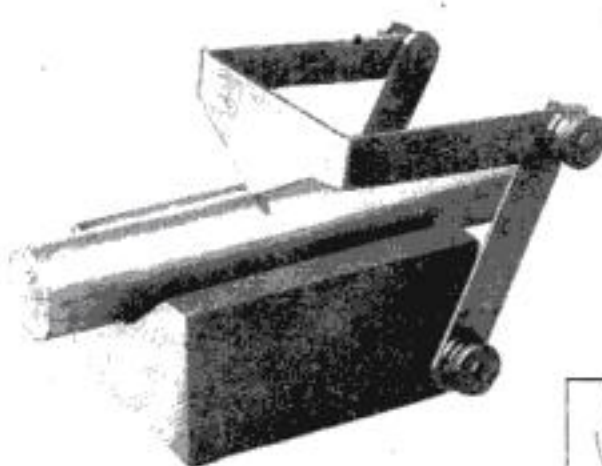

Fig. 2. V-block with centering attachment for setting work to be drilled.
Where only a few pieces are needed, a die like that at *B* in Fig. 1 may be placed on the material by hand and used in a vise as at *A* in Fig. 2, or under a screw press as at *B*. For cutting very soft metals, the die may be left soft, but for anything harder than copper, it should be hardened and tempered to about a straw color. The pad under the material may be end-grain hardwood or thick, hard fiber for any material softer than copper, and cold rolled brass or steel for harder materials requiring a hardened die.
**W**HEN drilling or redrilling holes in round stock, the work can be greatly simplified if an ordinary V-block is equipped with the centering attachment as illustrated in Fig. 2. With this arrangement it is possible to set punch marks or drilled holes exactly in line with the vertical axis of the drill.